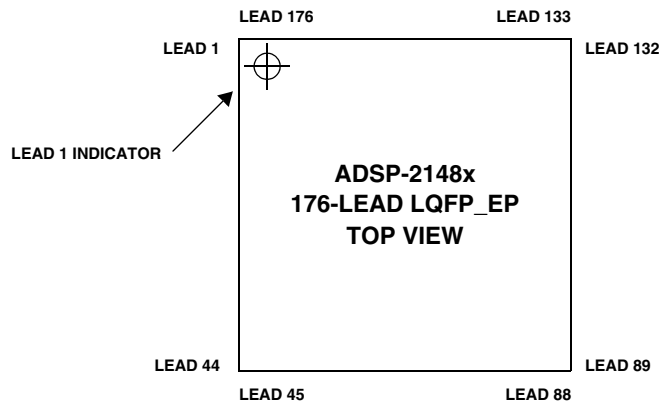
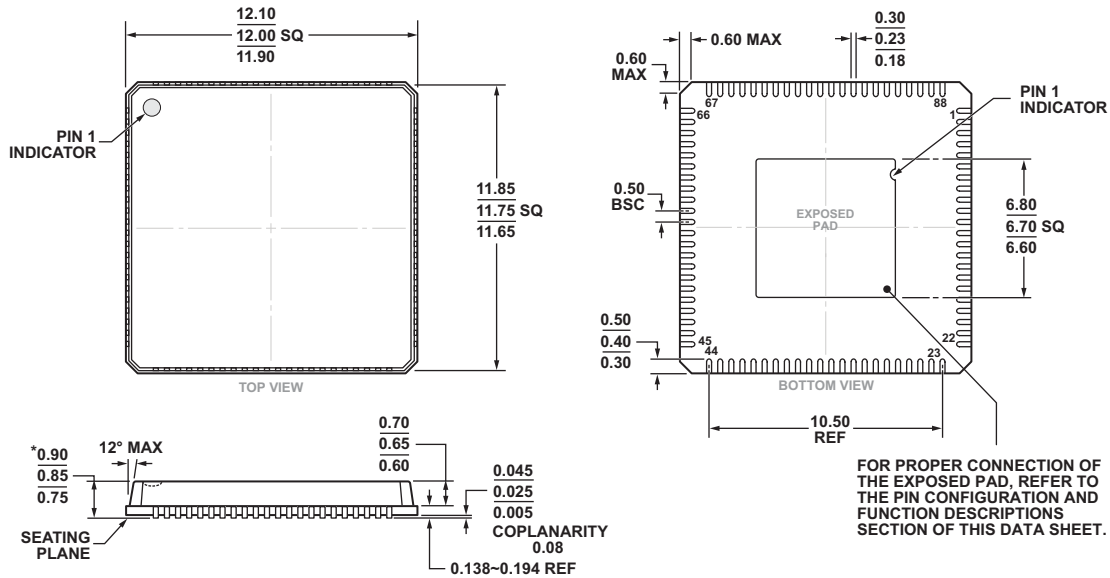

Figure 51. 176-Lead LQFP_EP Lead Configuration (Top View)
Figure 52. 176-Lead LQFP_EP Lead Configuration (Bottom View)
** Lead no. 177 (exposed pad) is the GND supply (see Figure 51 and Figure 52) for the processor; this pad must be **robustly** connected to GND.
Figure 51 shows the top view of the 176-lead LQFP_EP lead configuration. Figure 52 shows the bottom view of the 176-lead LQFP_EP lead configuration.